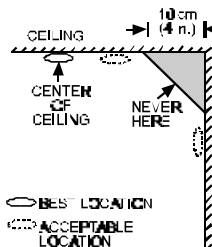

Figure 13. Recommended Best and Acceptable Locations to Mount Smoke Detectors
at least 10 cm (4 inches) away from any wall or corner, as shown in Figure 13.
- If ceiling mounting is not possible and wall mounting is permitted by your local and state codes, put wall-mounted detectors between 10 - 15 cm (4 - 6 inches) from the ceiling, also see Figure 13.
- Dead air spaces are often at the top of a peaked roof, or in the corners between ceilings and walls. Dead air may prevent smoke from reaching a detector. See Figures 13 and 14 for recommended mounting locations.